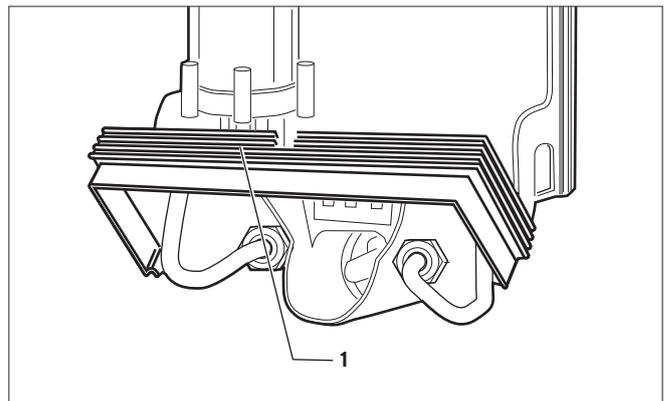

Fig. 4.10 Unit's folding frame
- To simplify fitting the water connection, the bottom section of the unit can be folded up (see (1) in fig. 4.10). After fitting the connection, you must fold the bottom section of the unit back down until it is engaged again. **The folding frame must not be removed.**